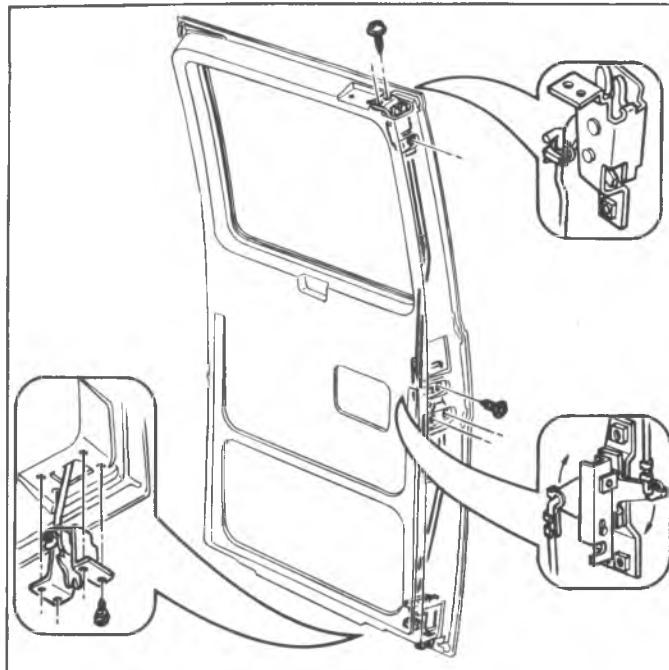

Fig. 34G—Remote Control and Latch
2. Disengage upper and lower latch rods from control by removing retaining clips. See figure 34G.
2. Disengage rod from remote control assembly. See figure 34G.